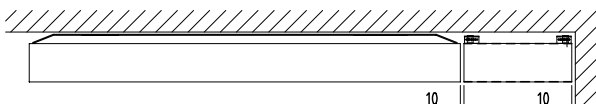

Figure 13. Cover with ceiling attachments.
3. Cover with ceiling attachments (see fig. 13).